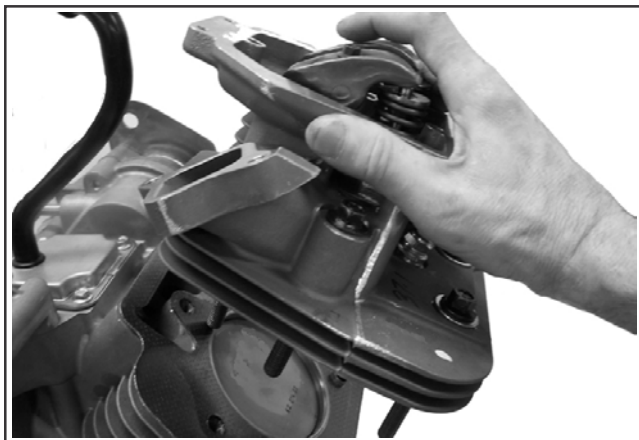

Figure 8-41. Removing Cylinder Head Assembly.
4. Carefully remove the push rods, cylinder head and head gasket. See Figure 8-41.